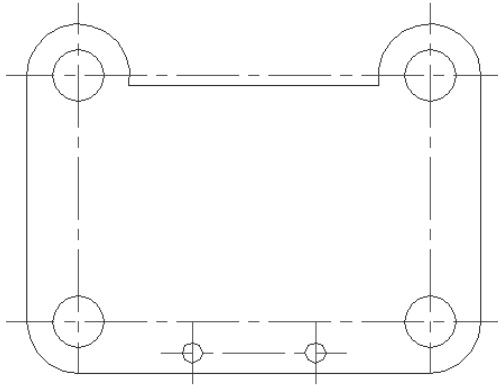

Figure 10-10: The completed tension arm.
4. Choose **Offset** from the **Modify** toolbar again. At the Specify offset distance or [Through/Erase/Layer] <Through>: prompt, type **4-19/64 ↵**. Pick the centerline ③ at the Select object to offset or [Exit/Undo] <Exit>: prompt, and then click near ④ at the Specify point on side to offset or [Exit/Multiple/Undo] <Exit>: prompt. Press Enter to end the command. The vertical centerline appears 4-19/64 units to the right of the original.
5. Save your drawing. It should look like Figure 10-10.